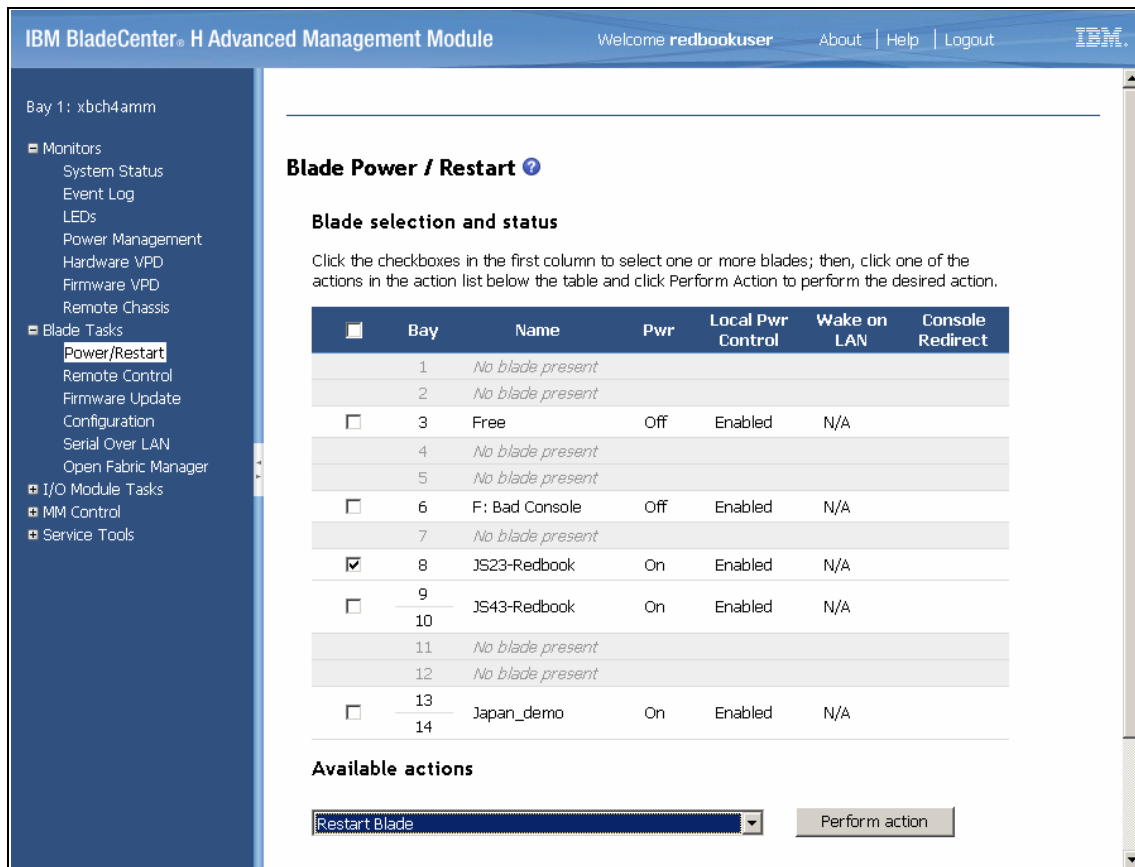

Figure 12-3 Blade Power / Restart
- Restart the blade server. Click **Blade Tasks** → **Power/Restart**. Select the desired BladeCenter server in the list, then choose *Restart Blade* in the **Available Options** combobox. Finally, click **Perform Action**. Figure 12-3 on page 465 shows the Blade Power/Restart page.